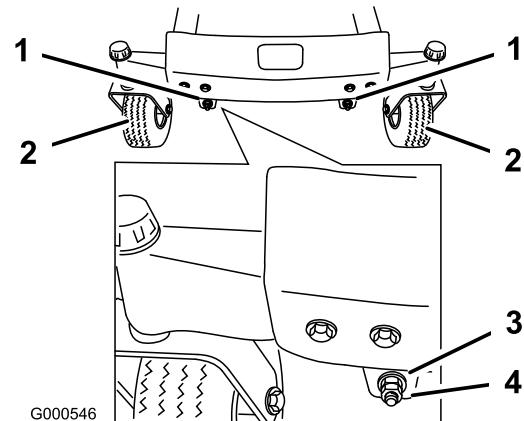
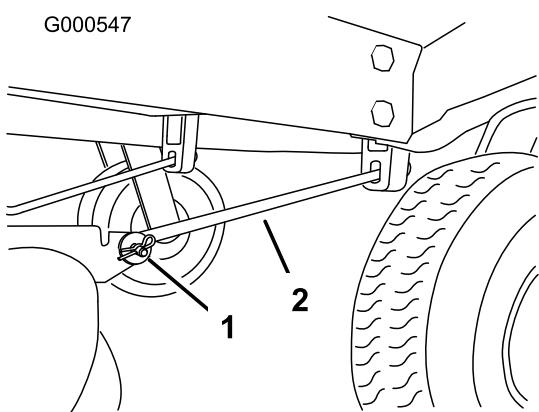

Figure 47
Figure 48
- To adjust the front-to-rear blade slope, remove the locknuts and then rotate the adjustment nuts in the front of the mower (Figure 47).
- After adjusting both adjustment nuts evenly, check the front-to-rear slope again. Continue adjusting the nuts until the front blade tip is 1/16-5/16 inch (1.6-7.9 mm) lower than the rear blade tip (Figure 47).
Note: After adjusting the adjustment nuts, make sure there is no slack in either support rod (Figure 48). Tighten either one to remove the slack (Figure 47).
4. Remove the hairpin cotter and clevis pin from the front support rod on each side of the mower (Figure 48).
7. Attach the front support rods to the machine with the clevis pins and hairpin cotters (Figure 48).